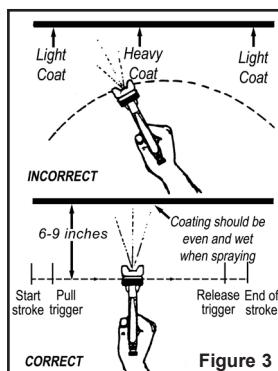
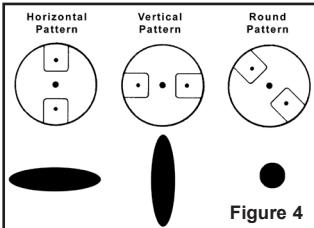

Figure 3
Figure 4
1. Begin spraying. Hold the gun about 6 to 9 inches from the work surface and while moving the gun from side to side, depress the trigger to begin applying material. To avoid blobs, runs and lap marks, keep the gun in motion at all times before, after and while the trigger is depressed (see Figure 3). When spraying from the left to right, use the vertical pattern and when spraying from the top to bottom, use the horizontal pattern (see Figure 4). Practice painting on a piece of scrap material or cardboard until the test coating results are acceptable, making adjustments as follows:
- c. Spray pattern shape (see Figure 4) - loosen the air cap nut and turn the air cap for the desired spray pattern. Hand tighten the air cap nut after adjustment.